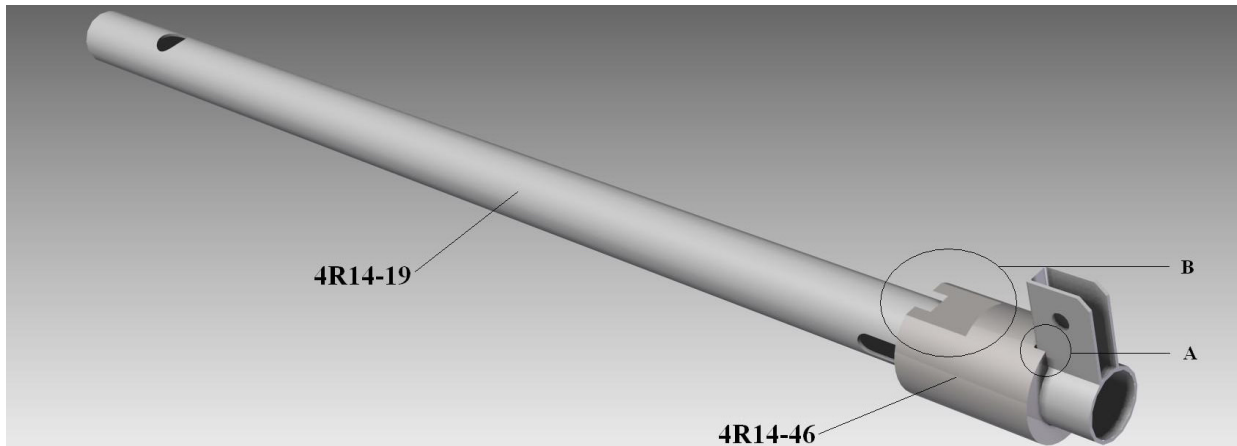

Figure 4, bush for brake pedal blockage and lower pedal guide tube.
17. Slide the brake pedal blocking bush (4R14-46) onto the lower pedal guide tube (4R14-19) and install this assembly again (see figure 4).
**Note:** Depending on the thickness of the welds, it might be necessary to mill out the bush at area's A and B (see figure 4) for a proper fit on the pedal guide tube and on the rear pedal mounting bracket.